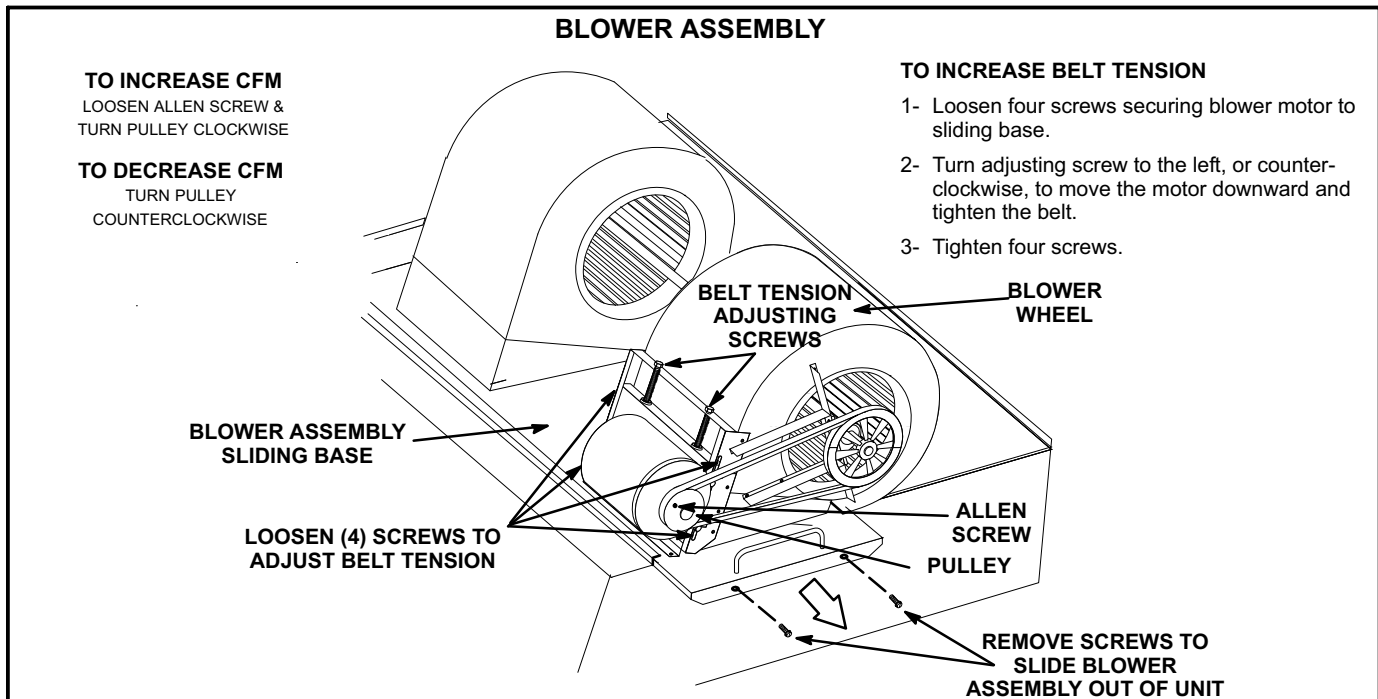

FIGURE 11
The blower assembly is secured to a sliding base which allows the entire assembly to be pulled out of the unit. See figure 11.
- 4- The blower RPM can be adjusted at the motor pulley. Loosen Allen screw and turn adjustable pulley clockwise to increase CFM. Turn counterclockwise to decrease CFM. See figure 11. Tighten Allen screw after adjustment. Do not exceed minimum and maximum number of pulley turns as shown in table 9.
- 1- Loosen four bolts securing motor base to mounting frame. See figure 11.